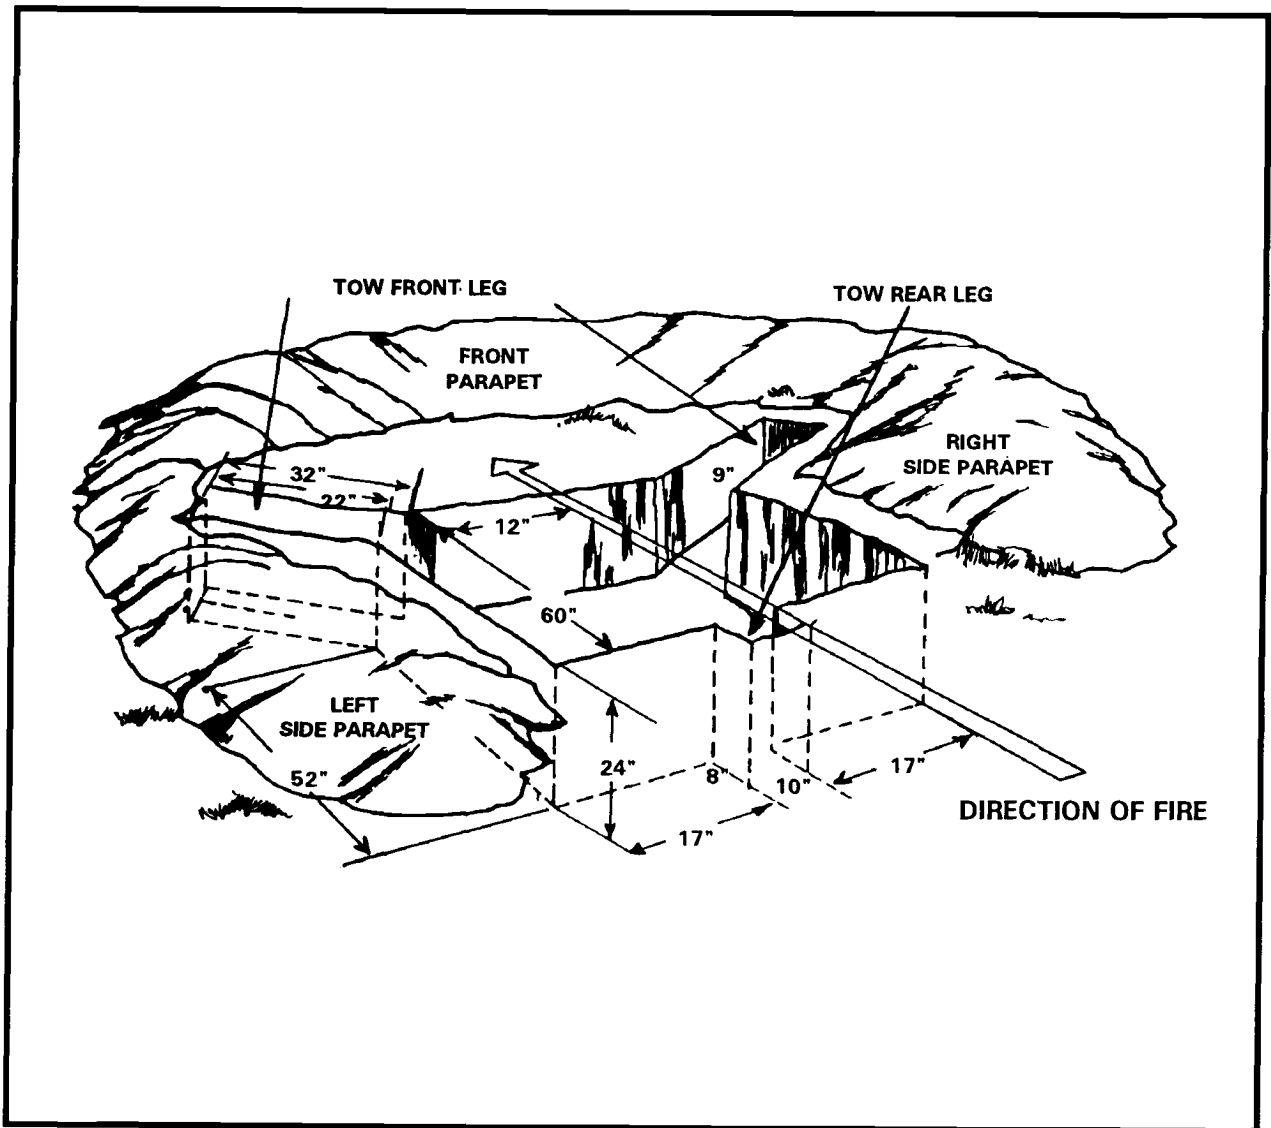

Figure D-1. Tripod-mounted TOW fighting position.
- (1) Assemble the launcher.
- (2) Clear the fields of fire while ensuring the sector is under observation.
- (3) Dig the weapon position first, then add overhead protection for the crew.
- (4) Build a parapet to the front and flanks of the position.
- (5) Disconnect the MGS and place it in the position made for it. Place the launcher into the position. Reconnect the MGS and check the boresight.
- (6) Improve the position by adding overhead cover for the crew and system.
- (7) Camouflage the position.
- (8) Inspect the position and its camouflage. If possible, move at least 35 meters to the front of the position and study it.
b. The initial position should look like Figure D-1, page D-2.
- (1) Make the position 24 inches deep.
- (2) Make the parapet at least 18 inches thick to keep out small-arms fire and artillery fragments. It should provide 9 inches of muzzle clearance under the launch tube.
- (3) Do not place dirt or equipment in the backblast area.
- (4) Scoop out a place for the MGS either under or to the front of the tripod.